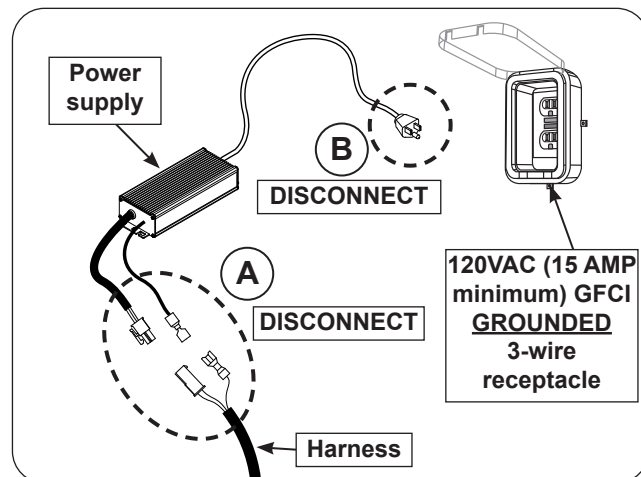

Fig. 38-1 Perform system reset
2. Disconnect the harness from the power supply (see Fig. 38-1, A).
3. Disconnect the power supply from the power source. (see Fig. 38-1, B).